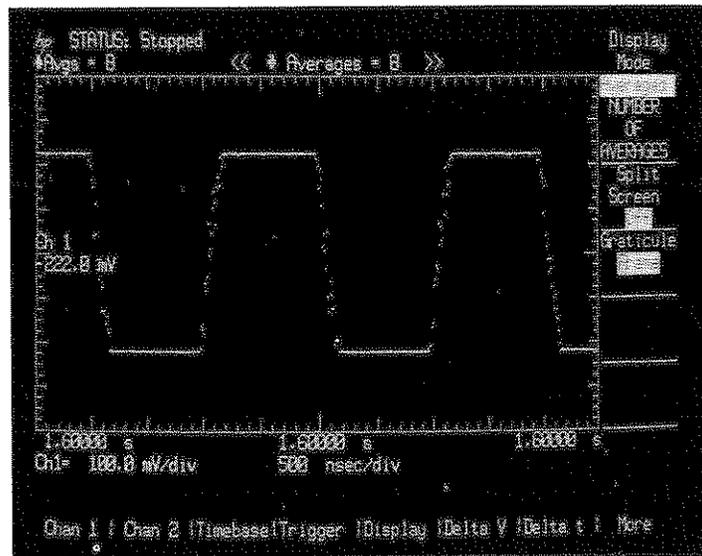

Figure 7-10. Time Jitter in the Averaged Mode
*After the unit has been allowed to acquire data for a short period, the rising and falling edges of the pulse appear to slope (see figure 7-10); this is a function of the time jitter on the signal and the fact that the unit is in the averaged mode. In this example where time jitter is present and a relatively long delay is used, the averaged mode does not faithfully reproduce the input signal.*